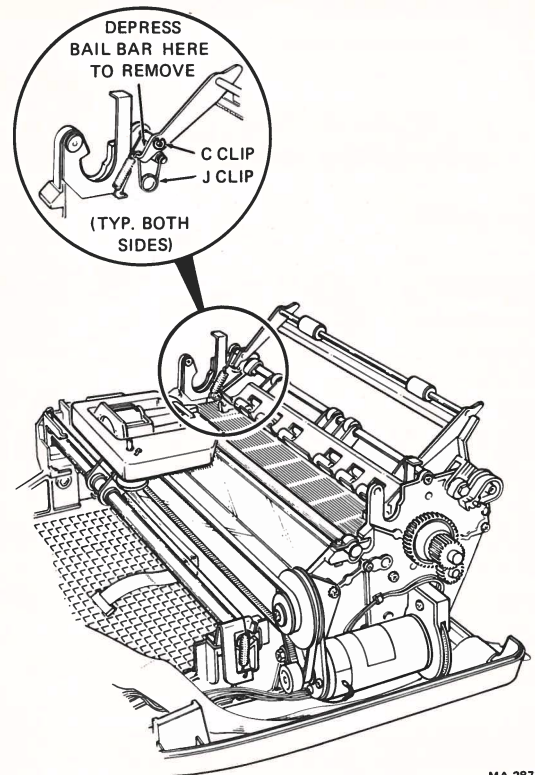

Figure 2-6 Bail Bar Assembly
2. Using needlenose pliers, remove one end of the J-clips from each end of the bail bar (Figure 2-6).
3. Using needlenose pliers, remove the bail bar retain clips from each end of the bail bar (Figure 2-6).
4. Press both ends of the bail bar and lift straight up (Figure 2-6).